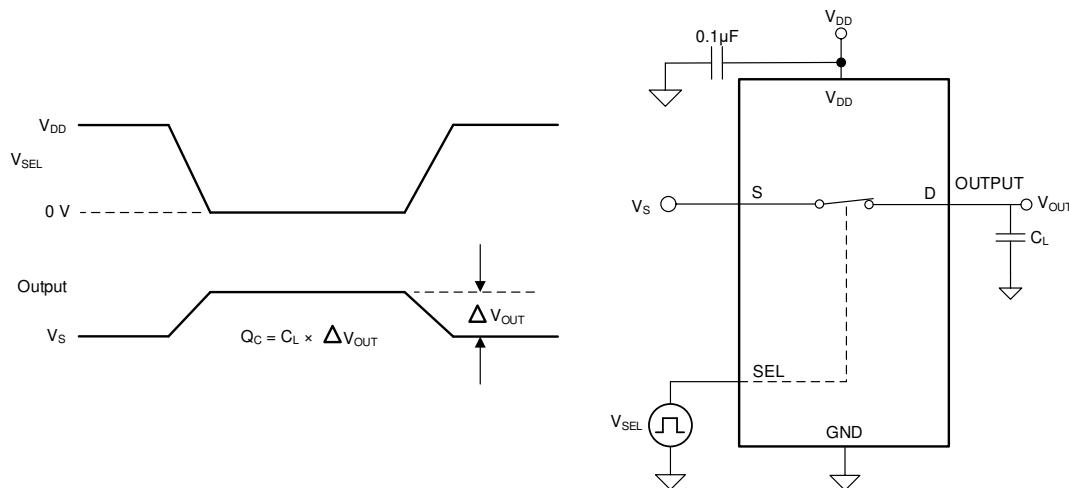

図 7-5. Charge-Injection Measurement Setup
The TMUX110x devices have a transmission-gate topology. Any mismatch in capacitance between the NMOS and PMOS transistors results in a charge injected into the drain or source during the falling or rising edge of the gate signal. The amount of charge injected into the source or drain of the device is known as charge injection, and is denoted by the symbol Q_C . 図 7-5 shows the setup used to measure charge injection from source (S) to drain (D).